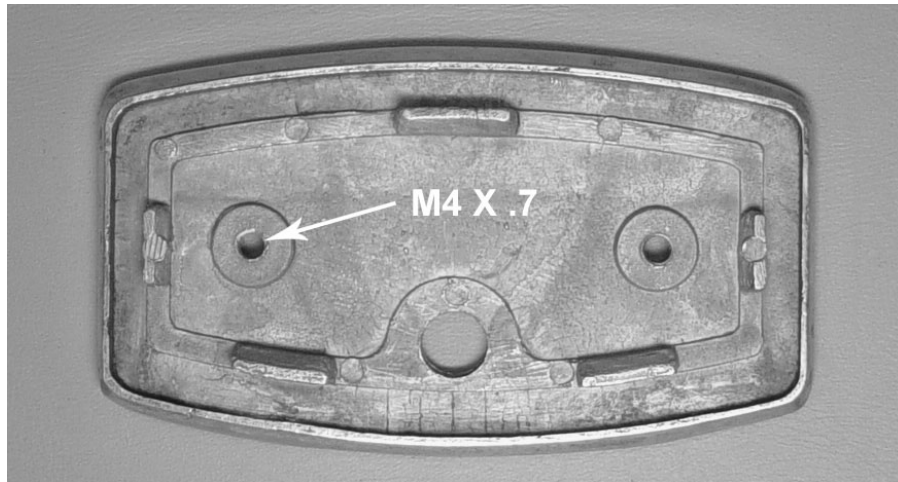

Figure 2
2. Firmly grasp or secure the backing plate in a vise. Using the M4 X .7 tap, place it into the hole as shown in Figure 2 and turn it in a clockwise manner. Be sure that the tap is perpendicular to work piece, any misalignment could cause cross-threading of the hole. Turn the tap until it exits the backing plate hole, and then twist the handle in a counter-clockwise manner to remove the tap from the hole. Repeat this process for the other remaining hole.